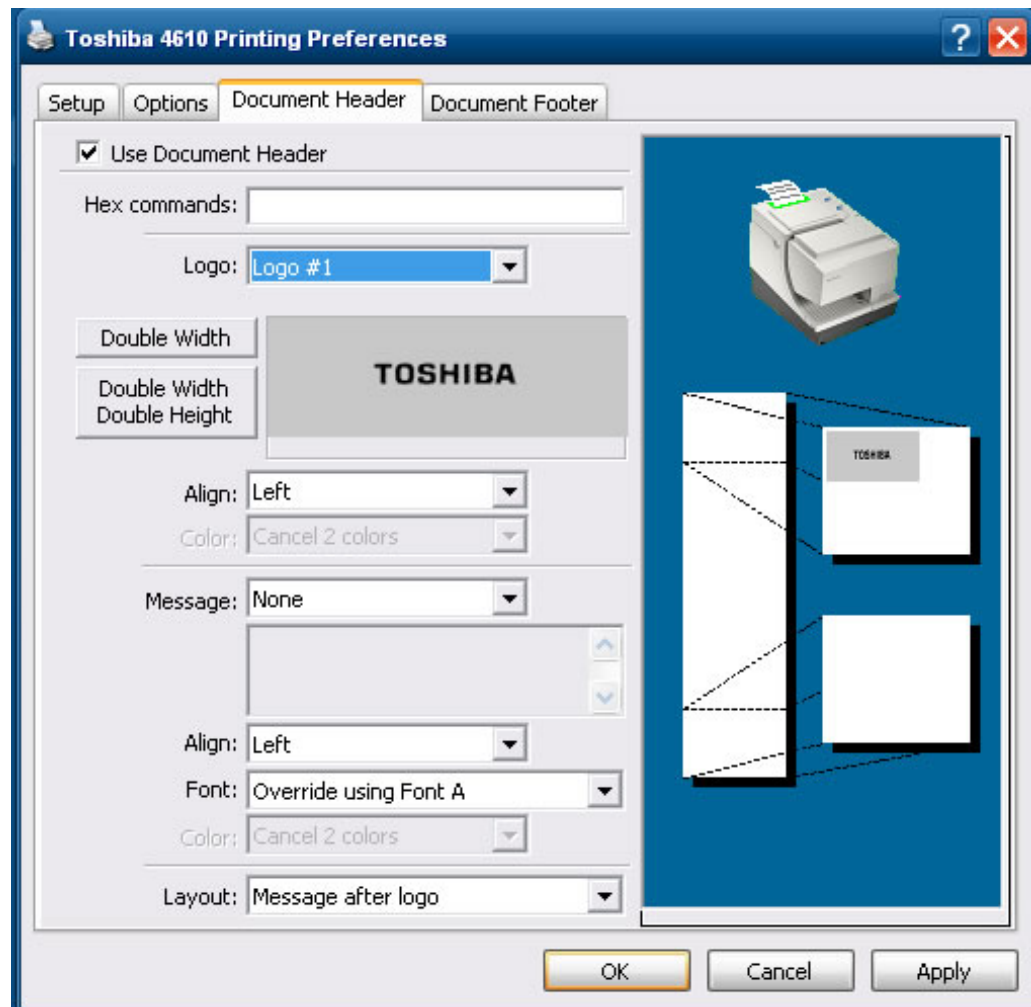

Figure 46. Selecting a header logo
6. To specify a logo (see Figure 46):